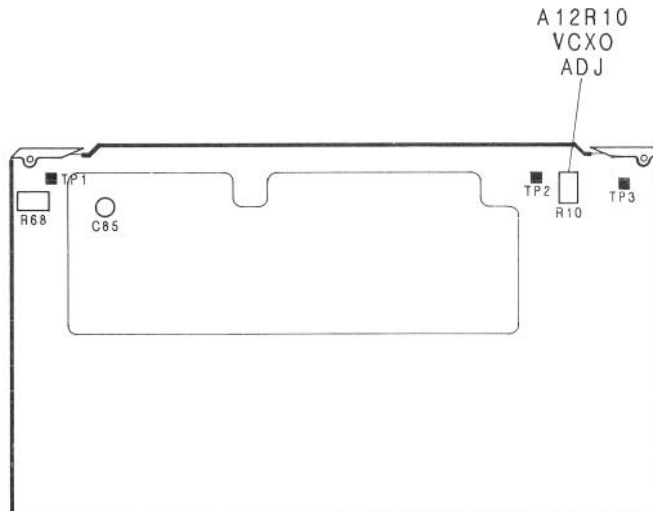

Figure 9. A12 Reference Assembly Adjustment Locations.
6. Adjust A12R10, VCXO ADJ, (see Figure 9) for a frequency counter reading of 50 MHz \pm 10 Hz. Successfully performing this adjustment concludes this procedure. If you are not able to adjust the frequency as specified, refer to "Source Troubleshooting" in the Service section of this manual.
12. Set the HP 8753A to generate the same CW frequency as the source. If necessary, adjust A12R10 (see Figure 9) for the same reading as noted in step 10 ± 10 mV. Although component variations preclude establishing a strict Hz/mV relationship, a 10 mV variation corresponds to less than 10 Hz. This completes the Frequency Accuracy adjustment.